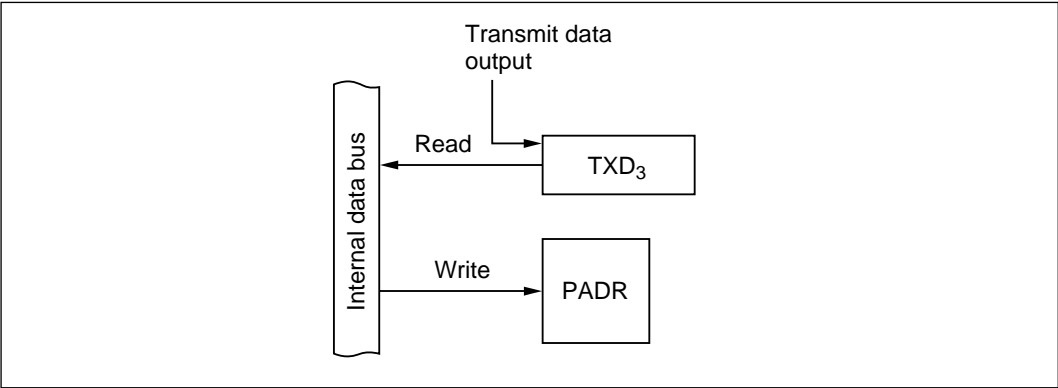

Figure 10-70 TXD₃ Output (Modes 1, 2, 4, 6, and 7)
(8) TXD₃ Output (PA₆: Modes 1, 2, 4, 6, and 7) (H8/539 Only): Figure 10-70 shows a block diagram illustrating the TXD₃ output function. Table 10-54 indicates register read/write data. When PA₆ is used for TXD₃ output, the value written in PADR is ignored, but PADR can be read to monitor the level at the TXD₃ pin.